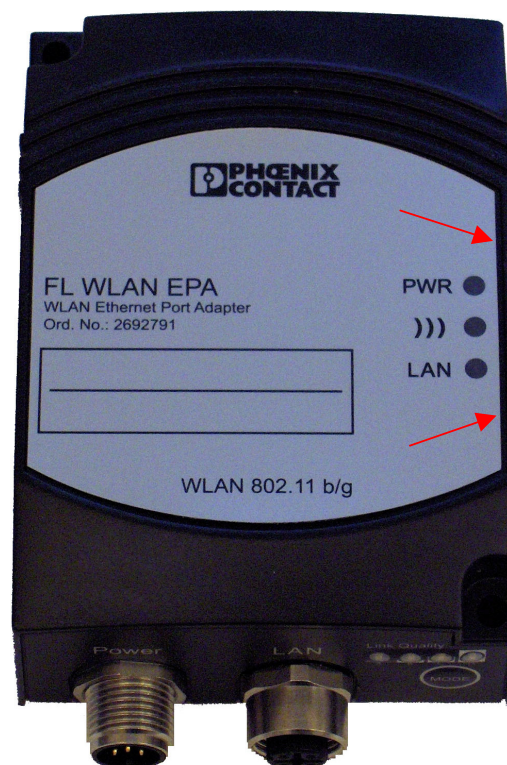

Figure 7 Front overlay mounted on the plastic housing
- Place the front overlay (BOM pos 2) on the plastic top housing according to Figure 7. Please place the overlay as close to the right edge as possible (see markings) in order seal the LED light pipes from leakage.